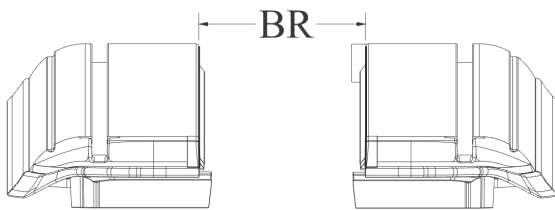

FIG. 6D
Finally, check for proper spacing by measuring between the rails by attempting to insert the BR Gauge in between the rail metal and the handle stop (Fig 6G). You can also check the between the rail measurement (BR) at the canister and the tailgate end of the rails (FIG.6D). The measurements should be equal to or less than those in Figure 6E.